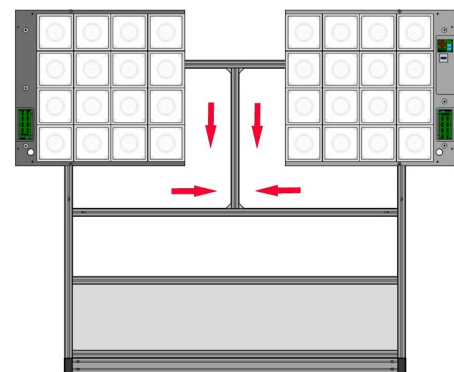

fig. 3.2-14
I. Attaching the touch pads: (**fig. 3.2-14**)